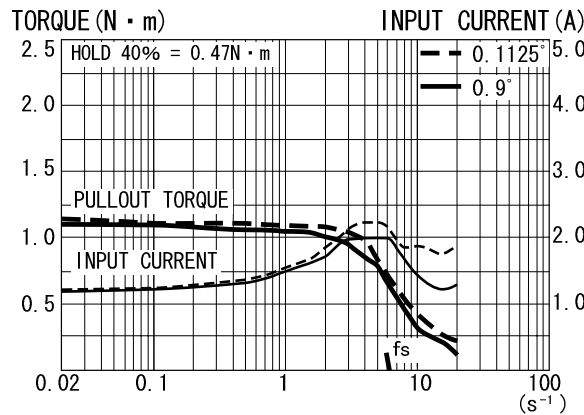

Fig. 7
| PK243-01A (B) | 1.8 | 0.95 | 6 | Fig. 7 |